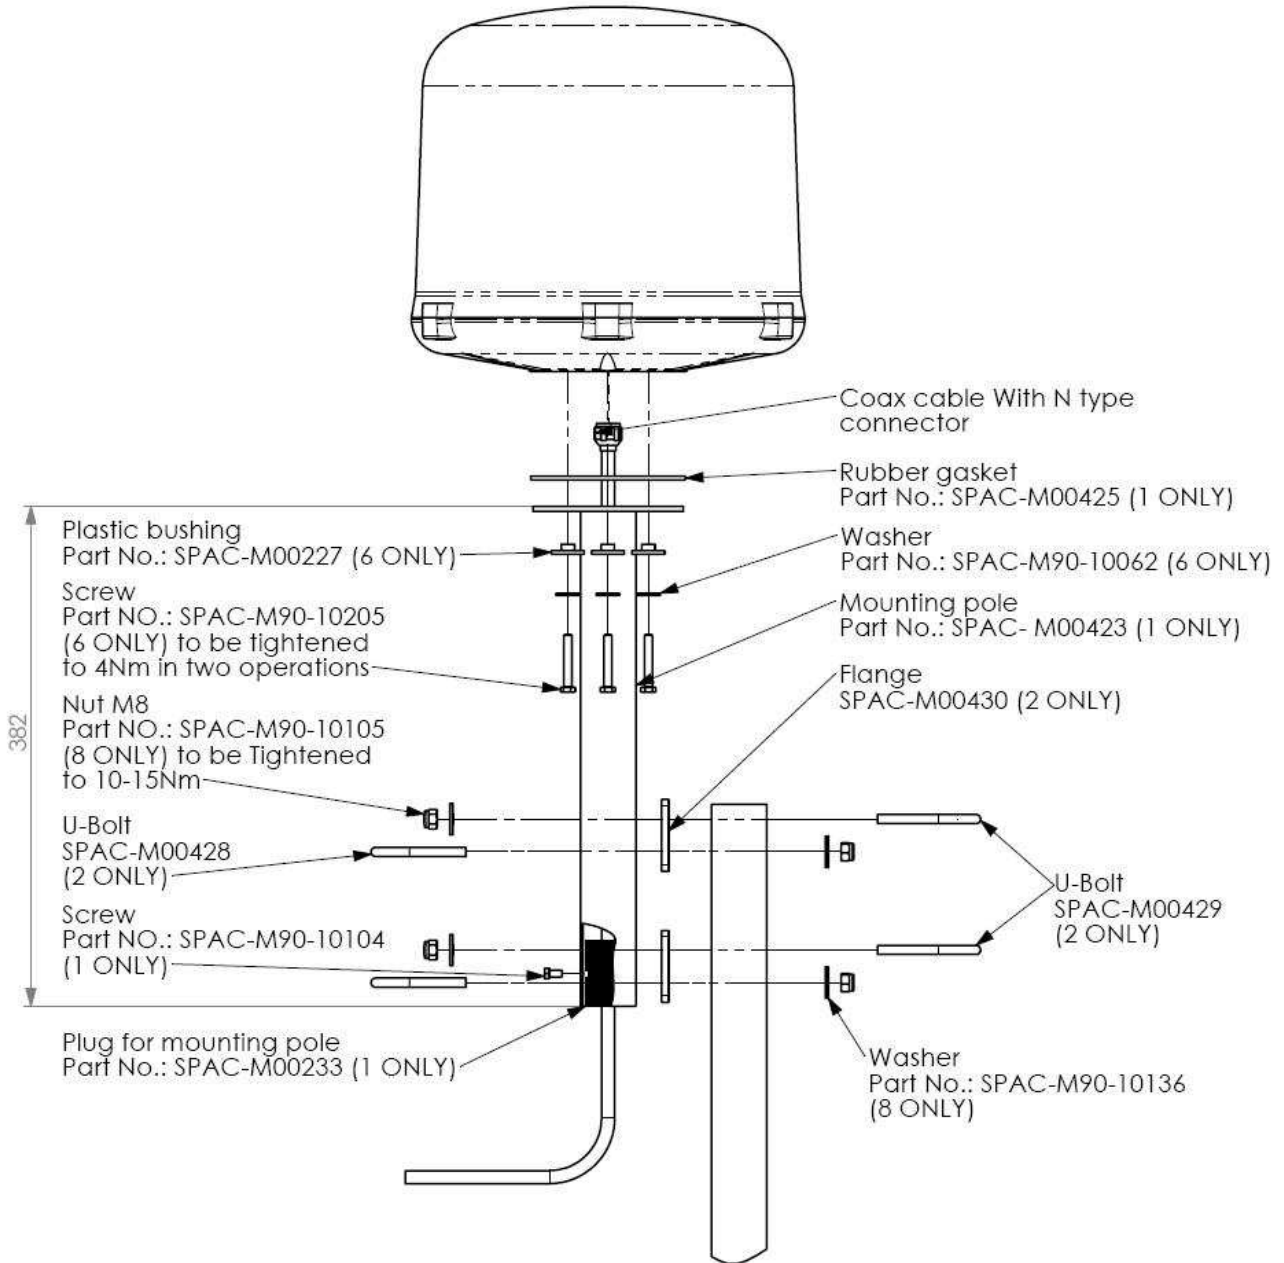

Figure 3. Installations using the standard pole mount kit.
The installation is based on a Pole Mount Kit AC-1005 supplied by SpaceCom. Installation using the “Pole Mount Kit” is shown in Figure 3.
Installation of the “ThurayaDSL Maritime Antenna” on a post is done according to Figure 3. The diameter of the post should preferably be between 35 and 50mm using the standard U-bolt supplied in the kit. Notice the TORQUES for bolts and nuts.
Remember to connect the N-connector on the 15 meter coax cable as shown in Figure 3 before fastening the antenna to the pole mount.
7. U-bolts, Part No. SPAC-M00429, are used to fasten the Mounting Pole to any post with a diameter between 35 and 50 mm, refer to Figure 3.
8. Nuts, Part No. SPAC-M90-10105, are M8 nut used for the u-bolts, refer to Figure 3. Nuts are to be tightened to 5Nm. Remember to use the washers M90-10136 as shown in Figure 3.